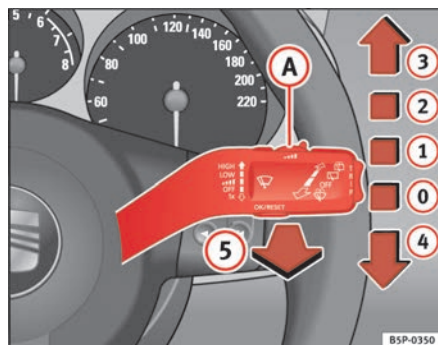

Fig. 86 Windscreen wiper and windscreen wash lever
The windscreen wiper lever ⇒ fig. 86 has the following positions:
- The next speed down will automatically be selected if speed ⇒ page 121, fig. 86 2 or 3 is selected when the vehicle stops. The set speed will be resumed when the vehicle starts again